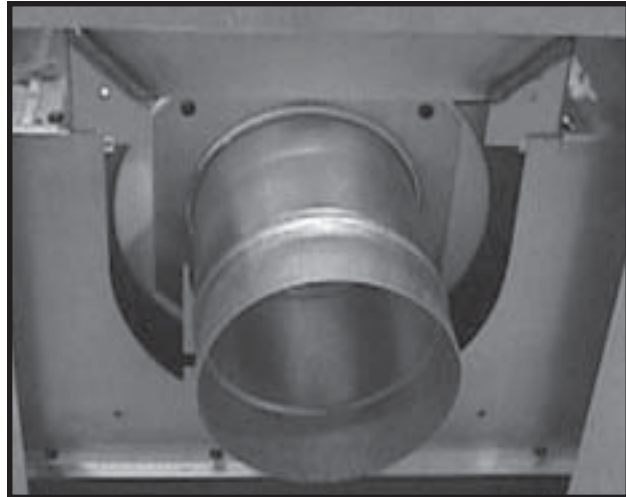

Figure 13 - Place Inner Collar on Rear of Appliance
- i. Place the inner collar on the appliance back and replace the four screws that hold this collar in place. See Figure 13.